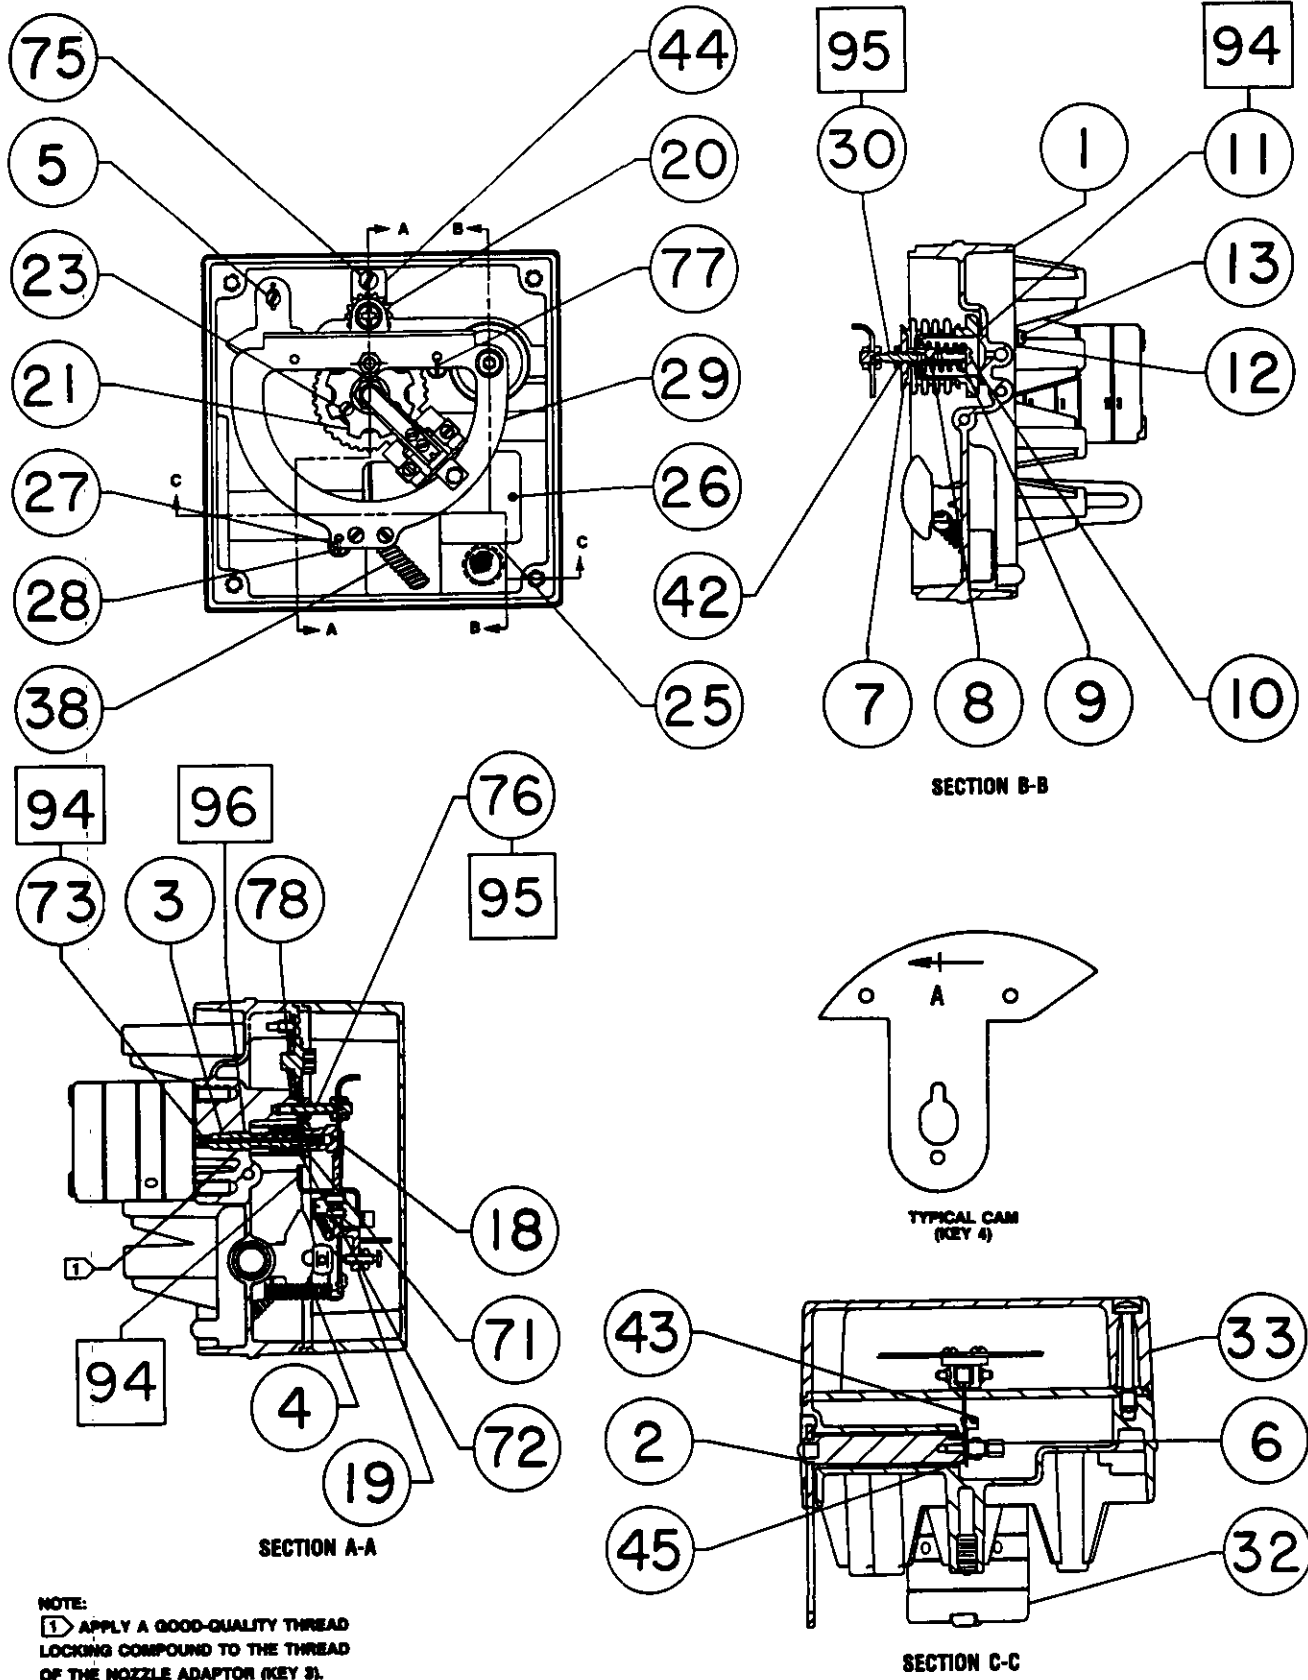

Figure 20. 3582 and 3583 Series Positioners and Transmitters Assembly Drawing
When replacing either extension spring (key 27 or 77 in figure 20), check the springs being used in the valve positioner or valve stem position transmitter. If one of the springs has a red color code and the other has a yellow color code, either spring could be replaced independently. If the springs being used do not have color codes, both springs must be replaced.
Positioner/Transmitter Common Parts (figure 20)